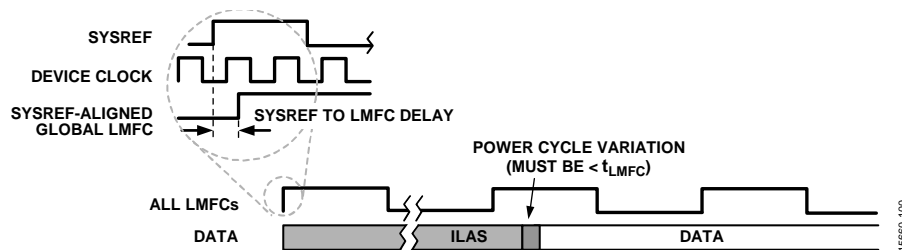

Figure 129. SYSREF± and LMFC
The JESD204B protocol organizes data samples into octets, frames, and multiframe as described in the Transport Layer section. The LMFC is synchronous with the beginnings of these multiframe. In Subclass 1 operation, the SYSREF± signal synchronizes the LMFCs for each device in a link or across multiple links (within the AD9695, SYSREF± also synchronizes the internal sample dividers). This synchronization is shown in Figure 129. The JESD204B receiver uses the multiframe
- The total latency variation across all lanes, links, and devices must be ≤ 1 LMFC period (see Figure 129). This includes both variable delays and the variation in fixed delays from lane to lane, link to link, and device to device in the system.